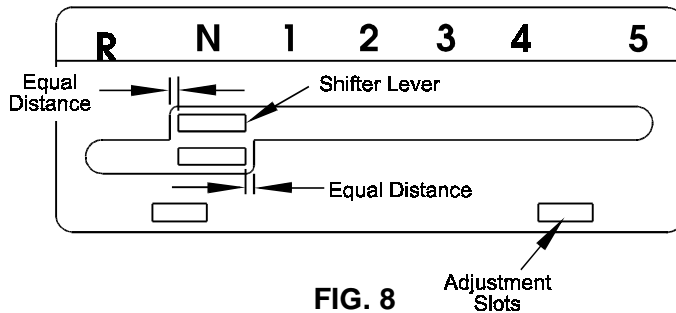

FIG. 8
- c) Shift to neutral position. Lever Should not contact the left edged of the upper slot. Push lever down. Lever should not contact the right edge of the bottom slot (See Figure 8). Shifter plate can be adjusted side to side to adjust position of lever relative to the slot in plate. Loosen the two bolts securing the shifter plate to the shifter lever legs. Adjust shifter plate and retighten bolts.